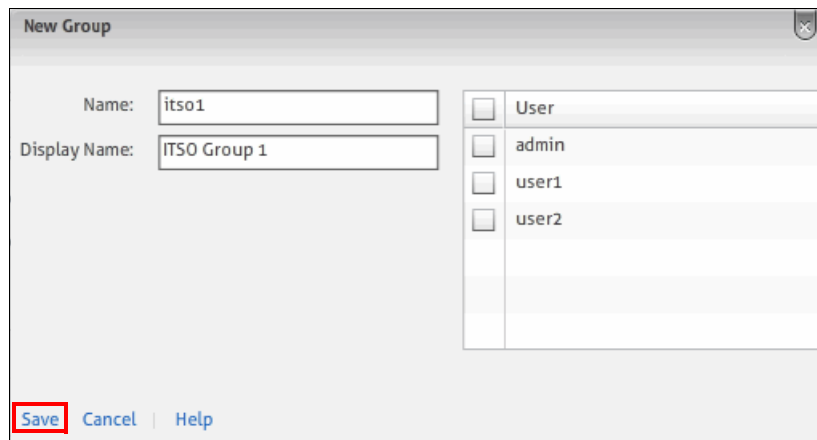

Figure 5-13 Creating the itso1 group
3. In the New Group window, enter the name for the group and a display name, as shown in Figure 5-13. You can also select the users to add to the group now by selecting each user from the list on the right.